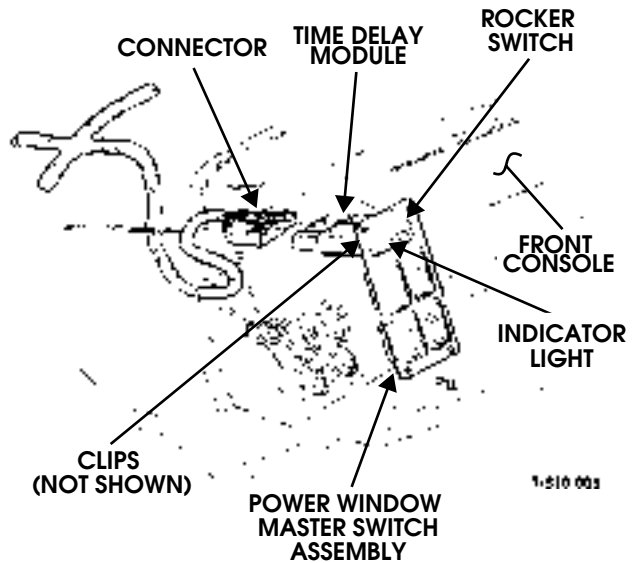

Figure 10-106: Rocker Switch/Time Delay Module Location
The optional heated windshield is capable of defrosting the windshield glass in less than 10 minutes at 0° F. The system is comprised of a rocker switch with an integrated time delay module (Figure 10-106), two relays, and two fuses, and in-glass heating elements.
The rocker switch/time delay module is mounted on the power window master switch on the driver side of the front console (Figure 10-106).
1. Remove screws and pull power window master switch from console (Figure 10-106).